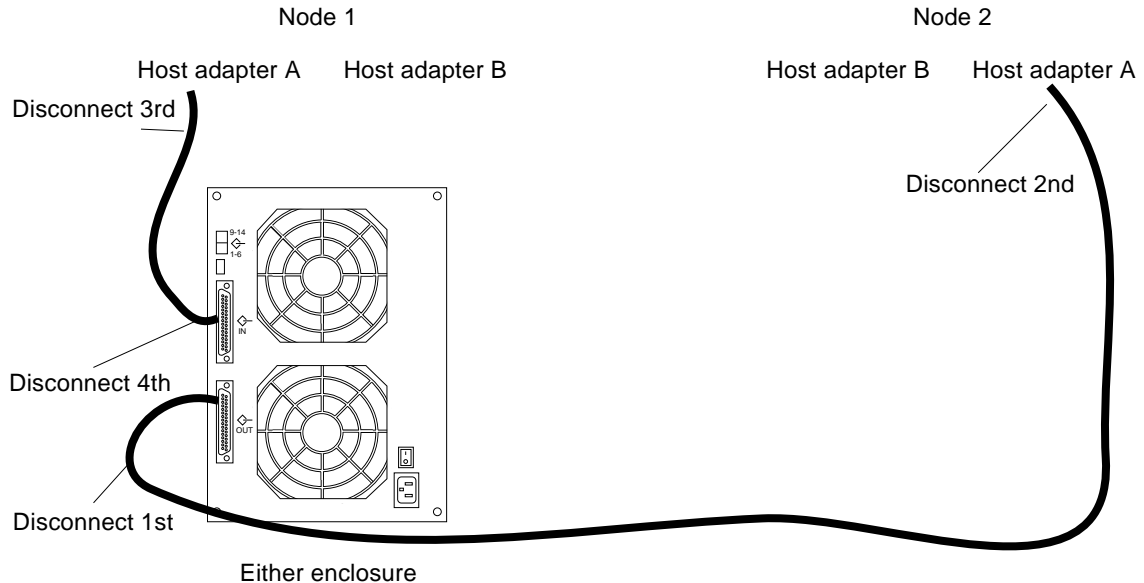

FIGURE 4-5 Disconnecting the SCSI Cables
2. **Disconnect the SCSI cables from the StorEdge MultiPack enclosure, disconnecting them in the order that is shown in FIGURE 4-5.**